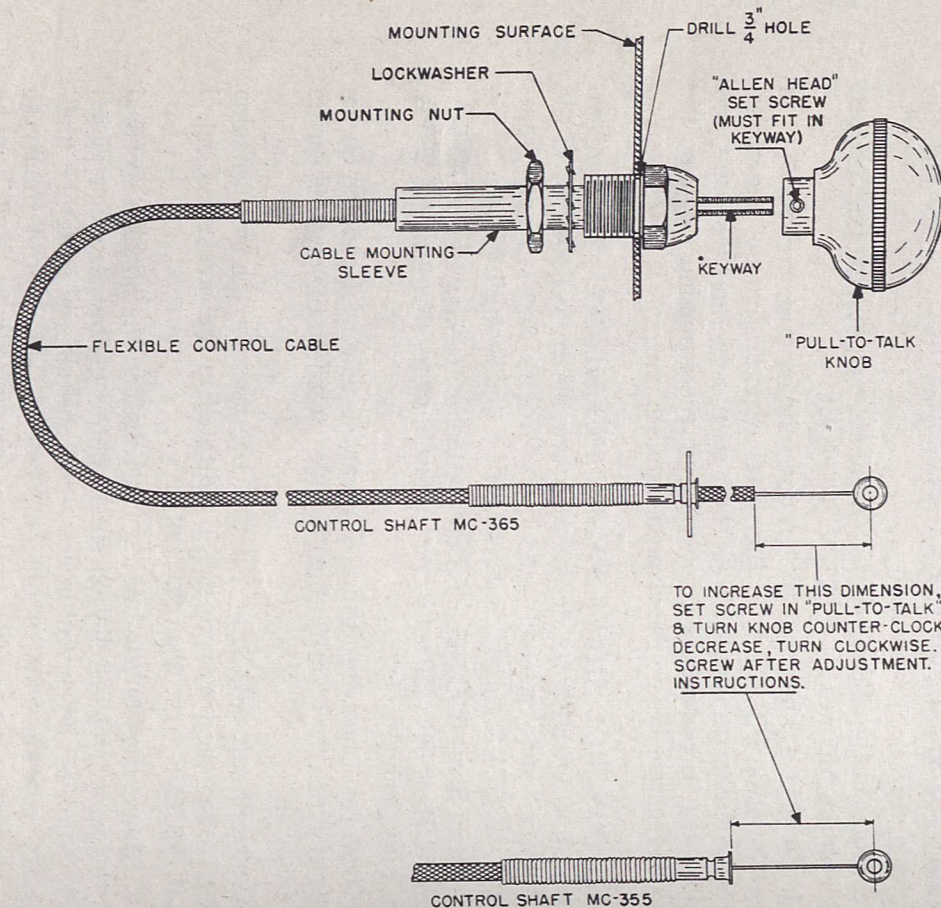

FIG. 11. CONTROL SHAFT MOUNTING MC-365 AND MC-355, INSTALLATION AND ADJUSTMENT DETAIL
d. The adjustment for the control shaft cable is then made by loosening the set screw on the "pull-to-talk" knob with a $\frac{1}{16}$ " Allen set screw wrench and turning the knob clockwise to shorten the distance between the arm and top of Mounting FT-295-A. The distance should be $2\frac{3}{32}$ inches from the top. To increase the distance, turn counterclockwise. See Fig. 11.